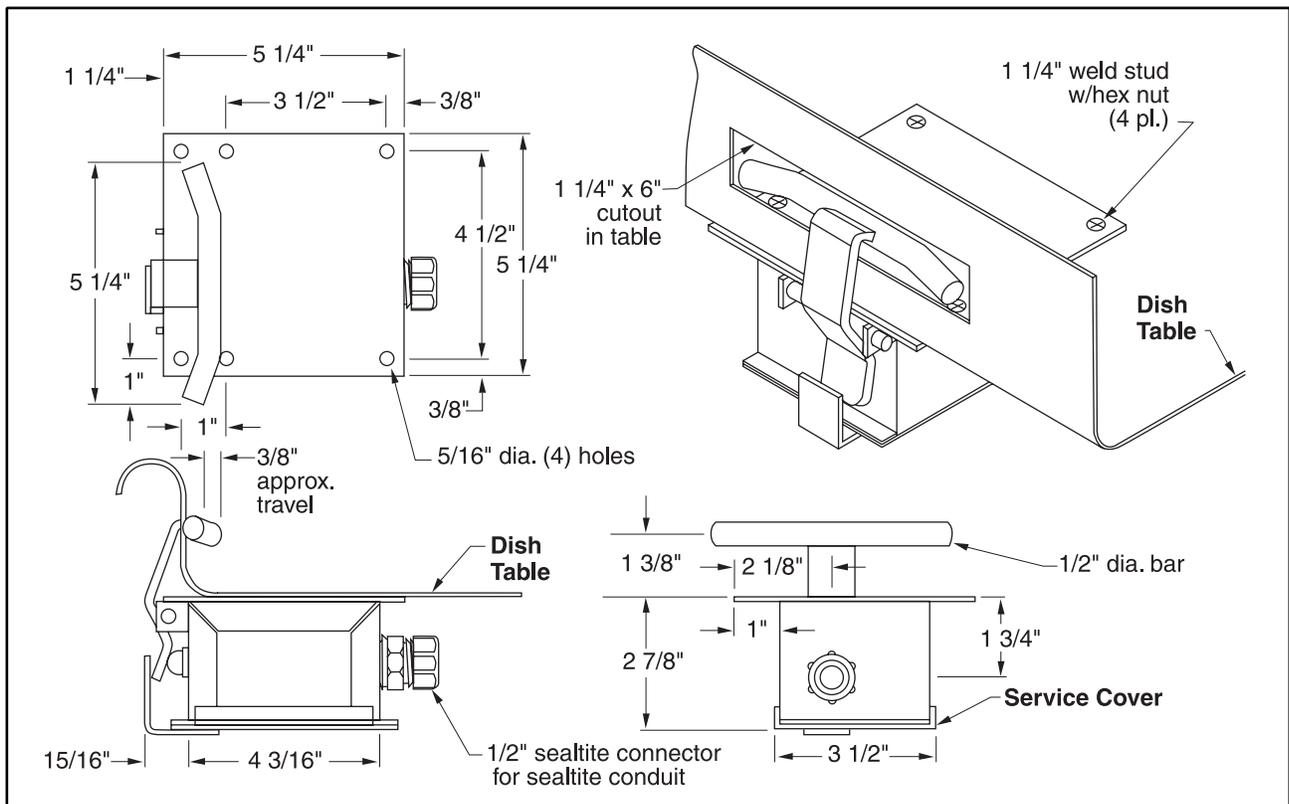

Figure 3: Table Limit Switch Installation
3. Using Figure 3 as reference, mark and cutout the 1-1/4" x 6" Table Limit switch access slot. Be sure to debur all sharp edges.